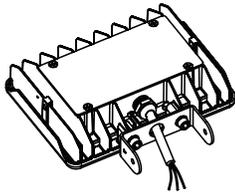

Figure 2.2
2. Attach the luminaire and bracket together with screws; (Take care not to damage the wires) (figure 2.2)